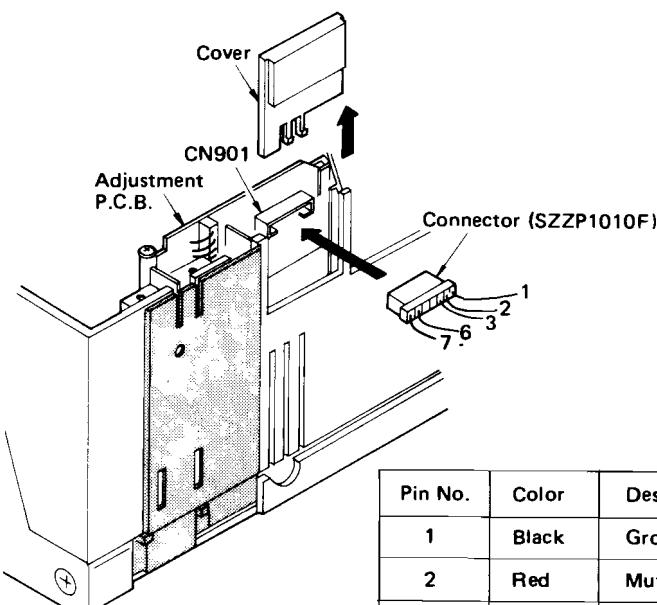

Fig. 29
5. Remove the bottom board and remove the cover. (Fig. 29)